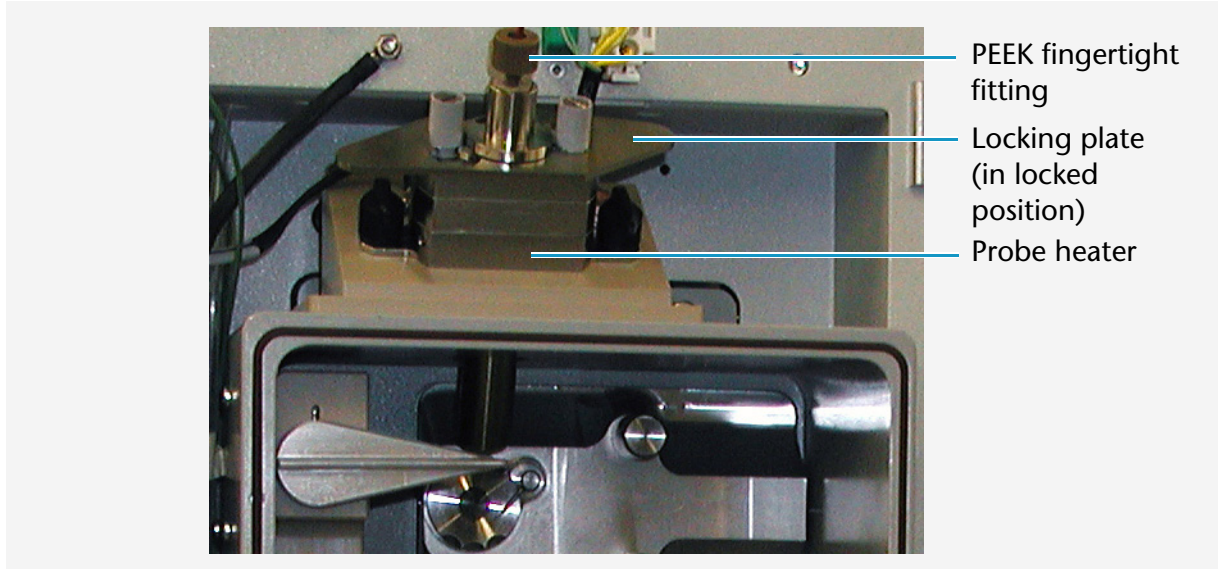

Fig. 46 MSQ Plus Mass Detector set up for the APCI mode
4. Unscrew and remove the PEEK fingertight fitting from the APCI probe. See Figure 46.